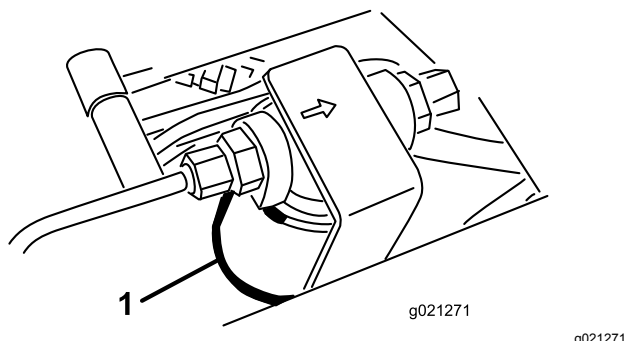
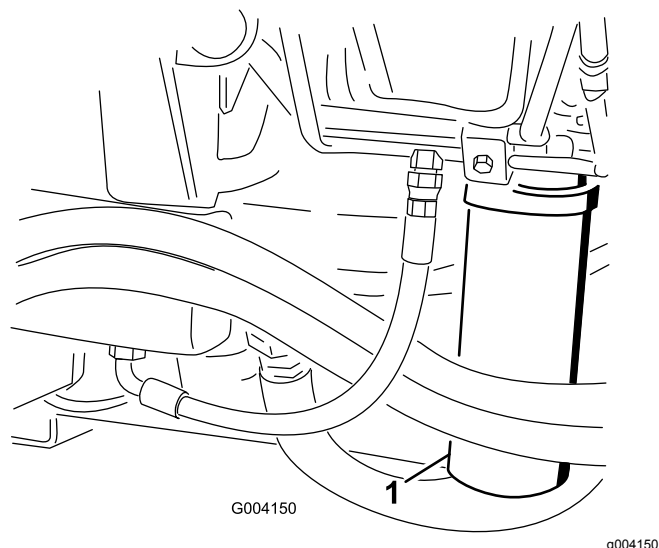

Figure 88
Figure 89
2. Clean the area around the filter mounting area and place a drain pan under filter (Figure 88) and (Figure 89).